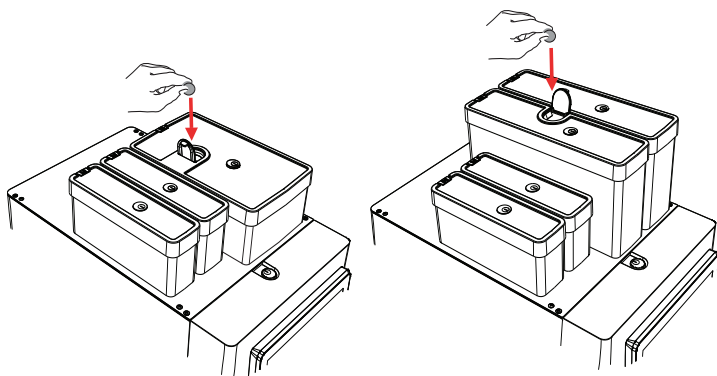

Figure 4-10
7. Place the cleaning agent in the open inlet opening of the (left) bean container, (see figure 4-10).